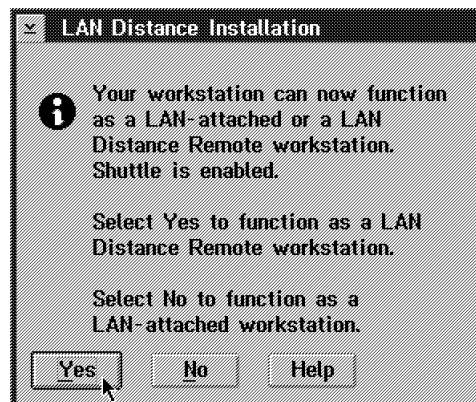

Figure 144. Basic Settings - Installation Type
11. If your workstation is already configured as a LAN-attached workstation, then the window in Figure 144 is displayed before you finish installing the LAN Distance product: